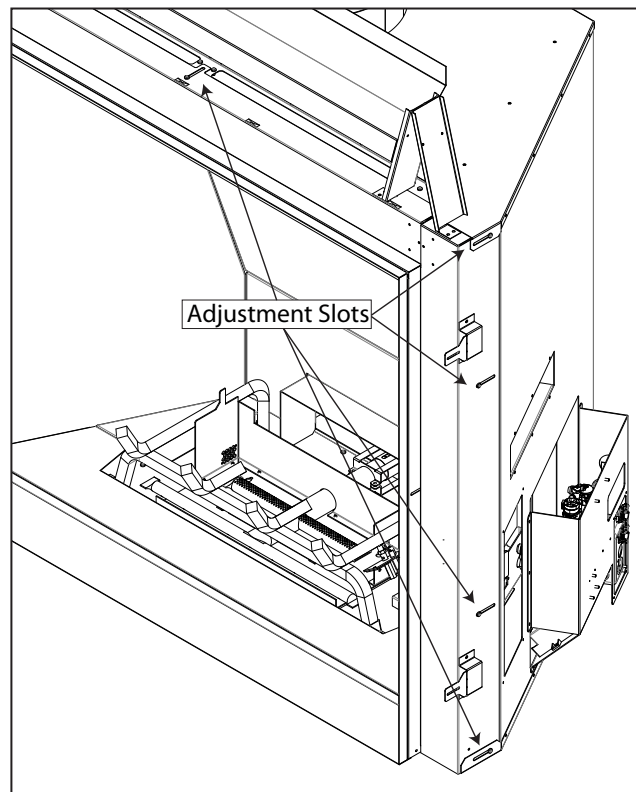

Figure 32: Framing Depth Adjustment
4. There are thirteen (13) slotted fasteners that need to be loosened to adjust the framing depth. There are two (2) behind each of the side covers removed in the prior step, four (4) on the outside of each cabinet side, and one (1) of the top-center of the unit (see Figure 32).
5. With the fasteners loosened, the front face should now be adjustable. All pieces are still connected to each other and should move as one. Adjust the depth to match the desired framing material then retighten the thirteen (13) slotted fasteners.